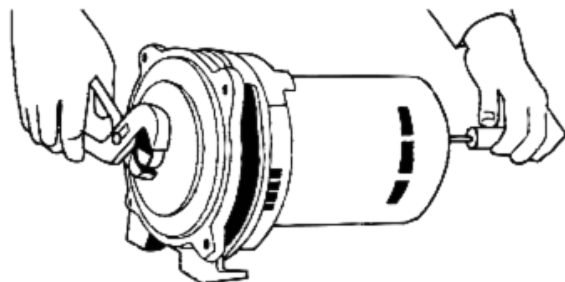

Figure 20: Remove Impeller
5. Remove impeller by holding pump shaft with water pump pliers and unscrewing impeller - left-hand counterclockwise facing the impeller to remove (Figure 20). Impeller can also be removed by prying out motor shaft end cap. Use a screwdriver in slot in end of shaft or a 7/16" open end wrench on shaft flats and hold to prevent shaft rotation. Unscrew impeller counterclockwise.